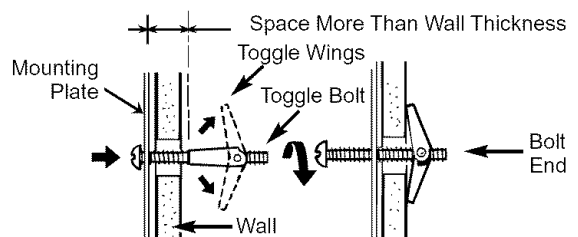

Figure 27
4. Attach the plate to the wall. To use spring toggle head bolts: Remove the toggle wings from the bolts. Insert the bolts into the mounting plate and replace the spring toggle heads to 3/4" past the bolt ends. Insert the spring toggle heads into the holes in the wall to mount the bracket. You may pull forward on the bracket to help in tightening the toggle bolts. Tighten all bolts. See **Figure 27**.